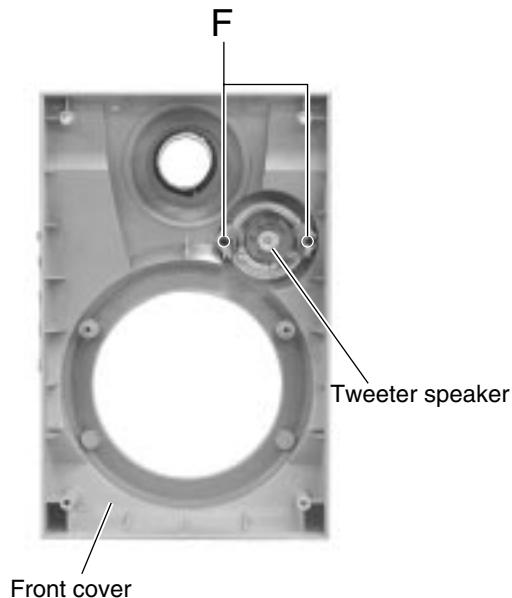

Fig.7
■ Removing the tweeter speaker (See Fig.7)